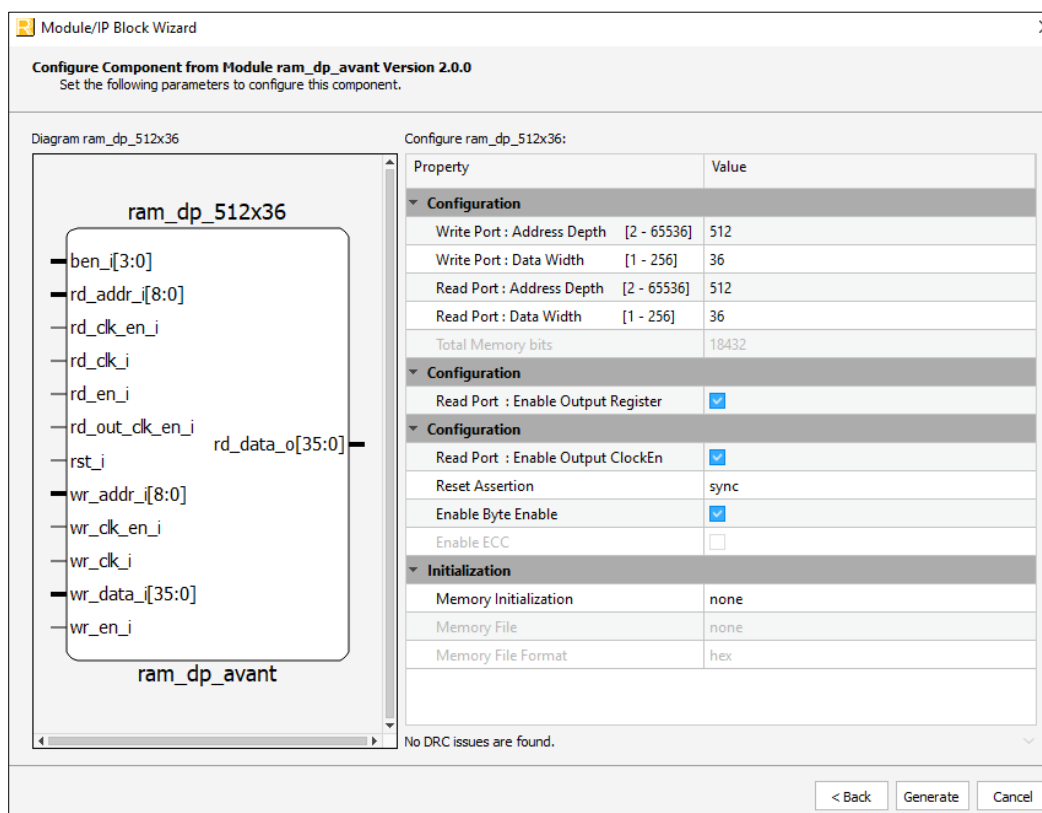

Figure 2.4. Example: Generating Pseudo Dual Port RAM (RAM_DP) Module Customization – General Options
- Customize the EBR-based DPRAM in the **Module/IP Block Wizard** window, as shown in Figure 2.4.